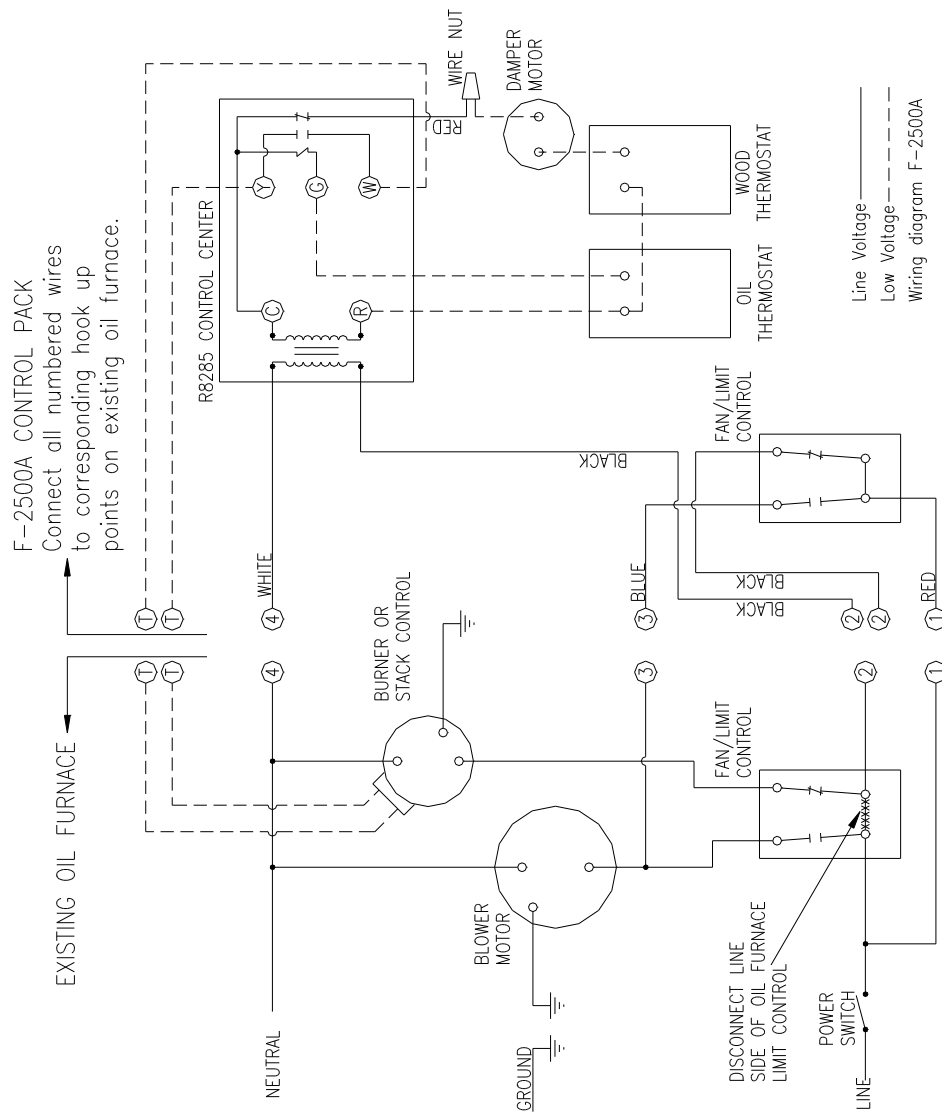

FIG. 11
ELECTRICAL CONNECTIONS (See Fig.11)
1. Remove the oil furnace thermostat wires from oil furnace stack control or oil burner control and connect them to the interlock relay, mounted on the junction box of the F-2500A control pack. Connect these two wires to the “G” and “R” terminals of the interlock relay. (See wiring diagram, Figure 11.)